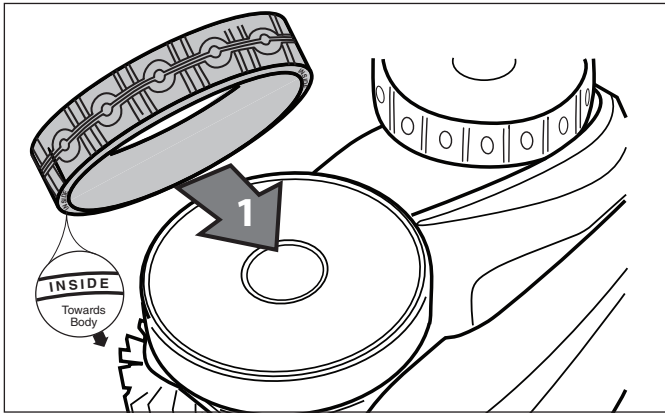

Figure 40. Tyre Replacement Orientation
3. To replace the tyre, position the tyre on the wheel making sure to orient the tyre so that the word **INSIDE** is toward the body of the cleaner (Figure 40).